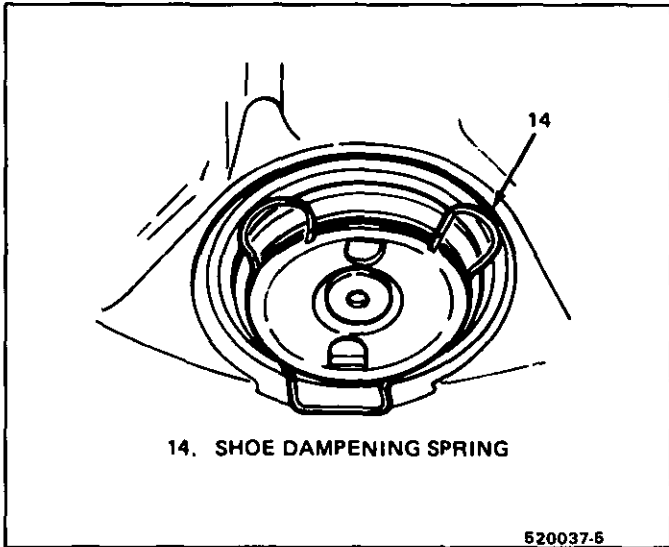

Fig. 14 Installing Shoe Dampening Spring
12. Dampening spring (14) in groove in end of piston as shown in Figure 14. It may be necessary to move parking brake lever off the stop to extend piston and make spring groove accessible.